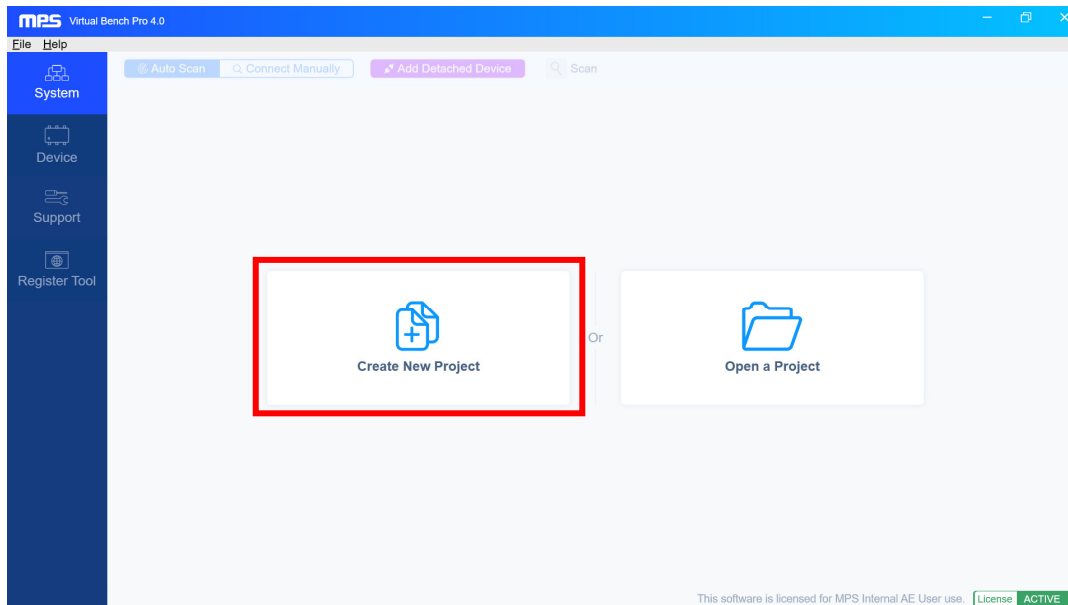

Figure 4: Create New Project
- Open Virtual Bench Pro 4.0 and click “Create New Project” (see Figure 4).